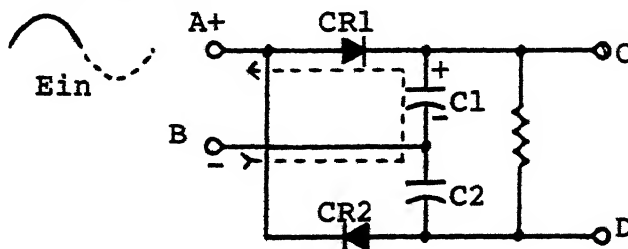

FIGURE 6
14. The full-wave voltage doubler operates much the same as the full-wave rectifier. Figure 6 is an illustration of the full-wave voltage doubler. When the a-c input voltage is positive at point "A" with respect to point "B", C1 will charge to nearly the peak value of the positive alternation through CR1. The polarity of the charge across C1 is indicated by the polarity signs.